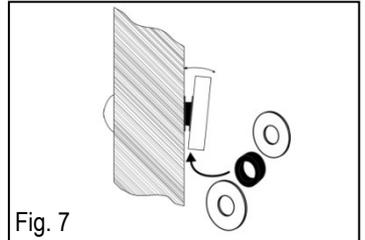

Fig. 7
7. Mount the armature plate to the door using the included sexnut bolt and door spacer, along with one rubber washer sandwiched between two steel washers. This allows the plate to pivot around the screw to compensate for door misalignment (see Fig. 7).